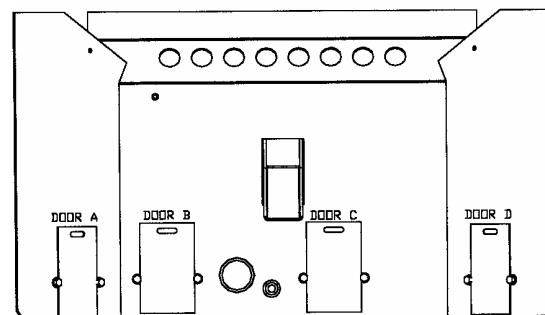

FIGURE 26
- b. **Interior Chambers** – Four ash doors in the firebox in the P22 can be removed for periodic cleaning (refer to figure 26). These doors allow access to the chamber surrounding the firebox.